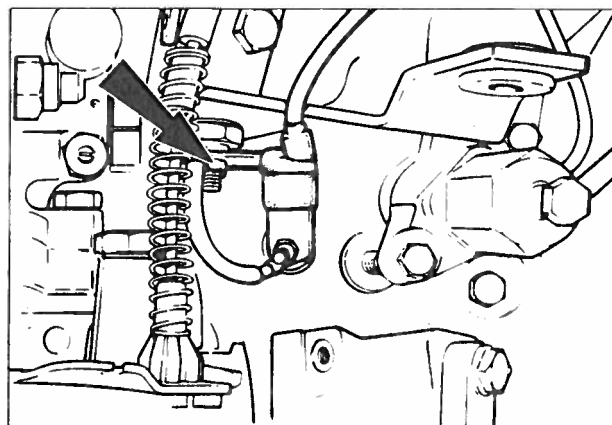

Fig. 6 Glow plug loom connection
7. On 4 cylinder engines fitted with glow plug cylinder heads, disconnect the glow plug loom connection at the front of the inlet manifold – see Fig. 6.